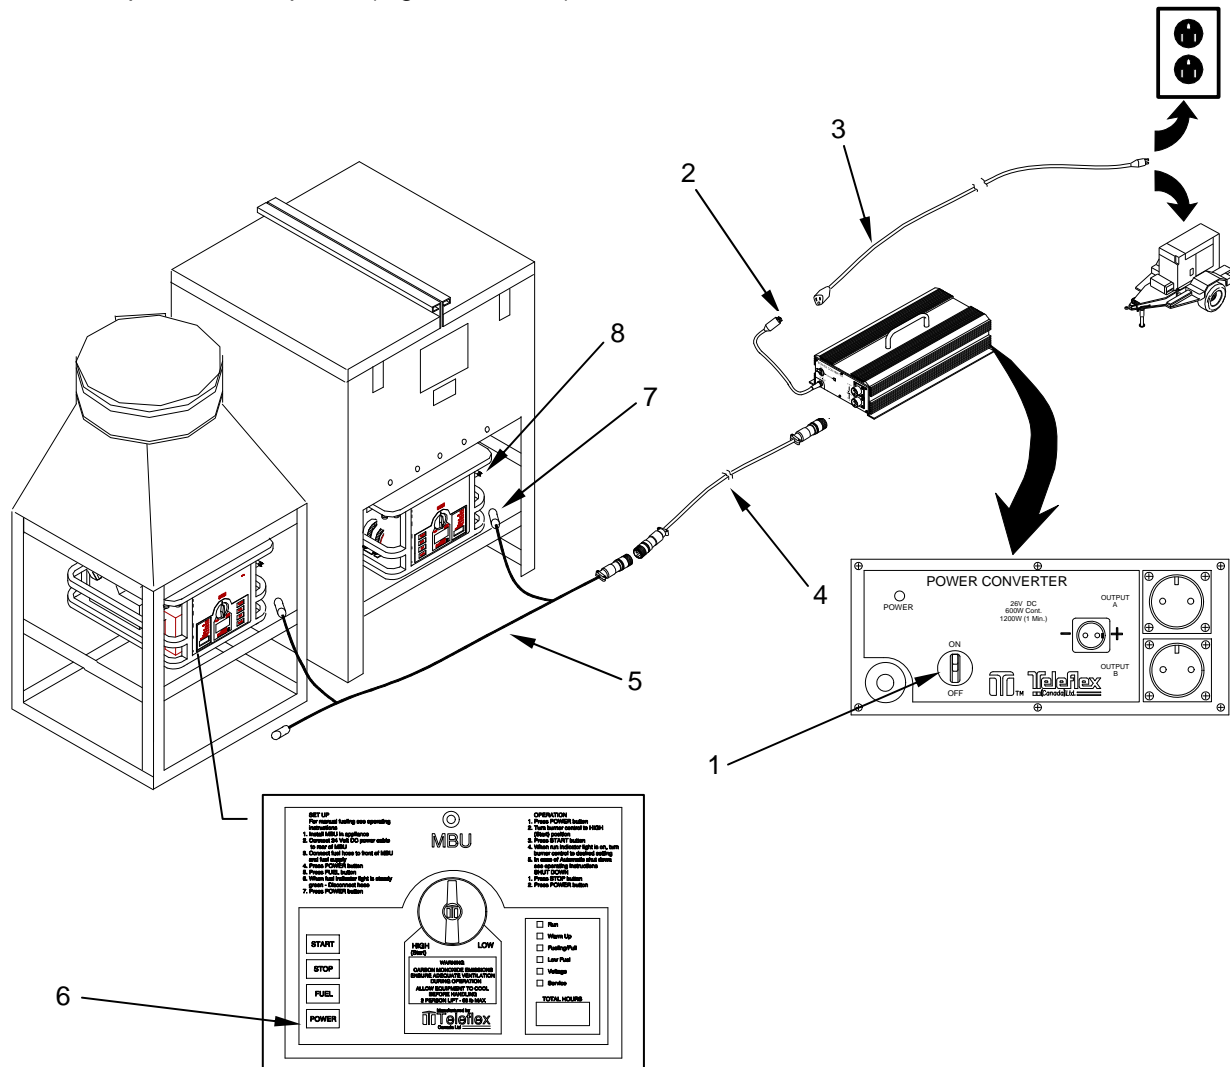

Figure 4. Connect Power Cables with 110VAC Power for Systems Other Than MKT.
1. With the power converter input switch (Figure 4, Item 1) OFF, connect the power converter power cord (Figure 4, Item 2) to the designated power source using the 50-ft (110VAC) extension cord (Figure 4, Item 3) provided.
2. Connect the 25-ft (24VDC) power cable extension (Figure 4, Item 4), if required, to the power converter (Figure 4, Item 2).
3. Connect the 2 or 4-branch cables (24VDC) (Figure 4, Item 5) to the other end of the 25-ft (24VDC) extension (Figure 4, Item 4), if used.
4. With the MBU Power switches (Figure 4, Item 6) OFF, connect the cable branches (Figure 4, Item 7) to the power-in receptacle (Figure 4, Item 8) on the individual burners.